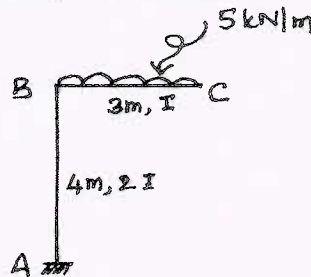

Fig.Q.5(b)
- b. Using castigliano's approach find the vertical and horizontal deflection at 'C' of abent loaded as shown in Fig.Q.5(b). Take  $EI = 15000 \text{ kN/m}^2$ . (12 Marks)